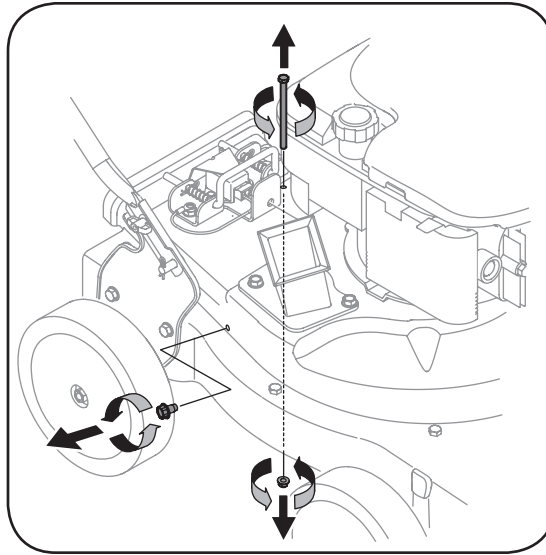

Figure 5-1
4. Remove self tapping screw on right side of unit that attaches to the flail screen. See Figure 5-1.
5. Remove hex screw on top of rear housing near mounting bracket and the flange lock nut that secures flail screen. See Figure 5-1.